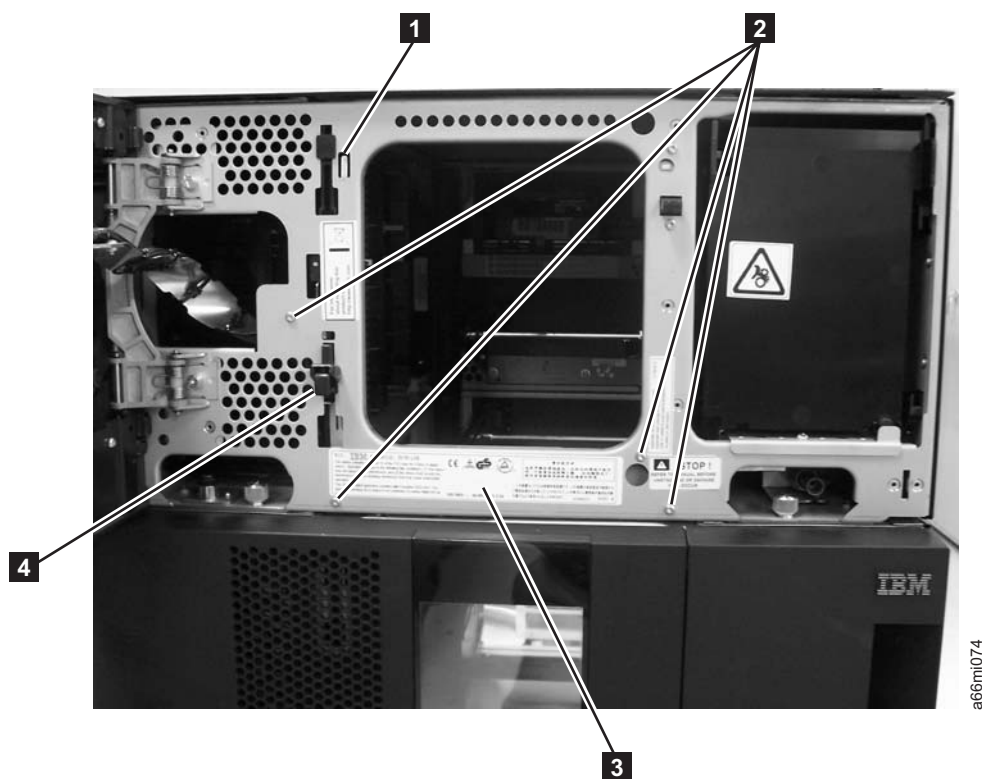

Figure 8-113. Four screws on front of door and plastic cable guide
- g. Remove the 4 screws (see **2** in Figure 8-113 on page 8-105) from the front of the door, holding the long plastic cable guide to the door.